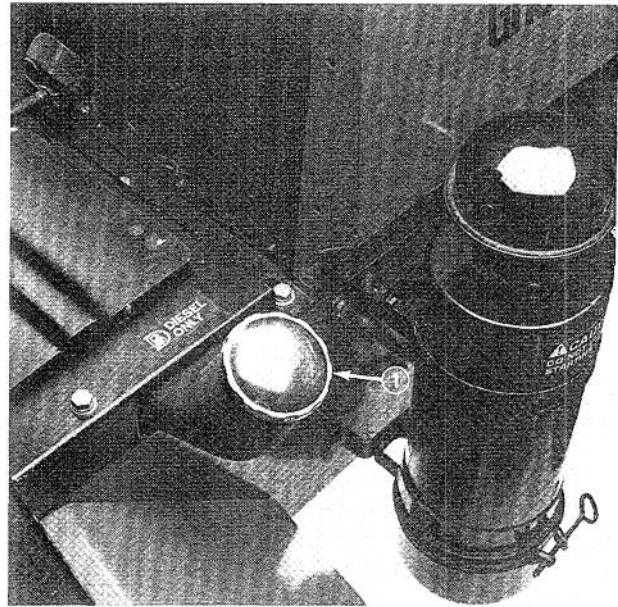

Figure 15
2. Remove cap from the fuel tank (Fig. 15) and fill the 8 gallon (34 l) tank to within 1 inch (25 mm) from the top with diesel fuel. Install fuel tank cap tightly after filling tank.